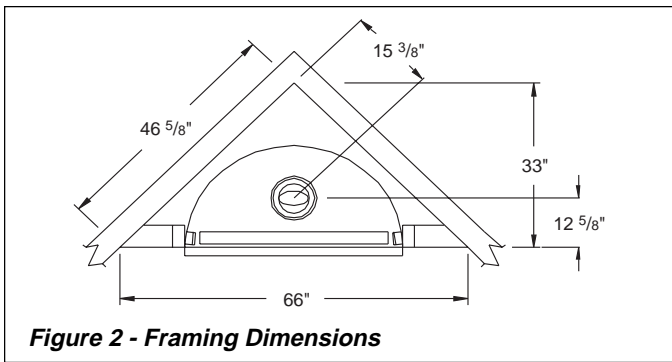

Figure 2 - Framing Dimensions
STEP 1: Frame the opening for the firebox using the dimensions shown in Figure 1 or Figure 2.